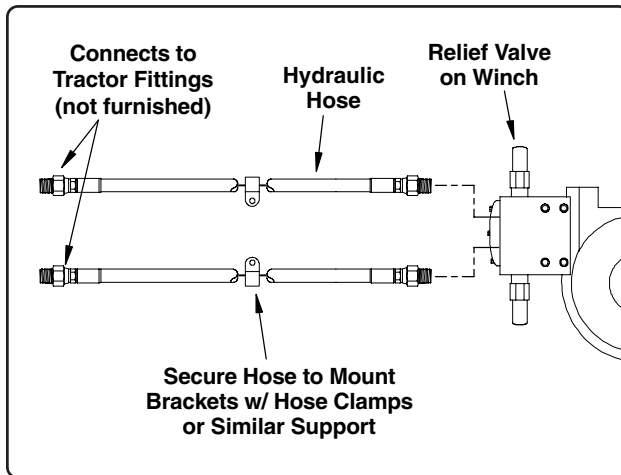

Fig. 5
3. Apply a thin coat of clean oil to the o-rings on the ends of the hydraulic hoses and attach the hoses to the relief valve (See Fig. 5).